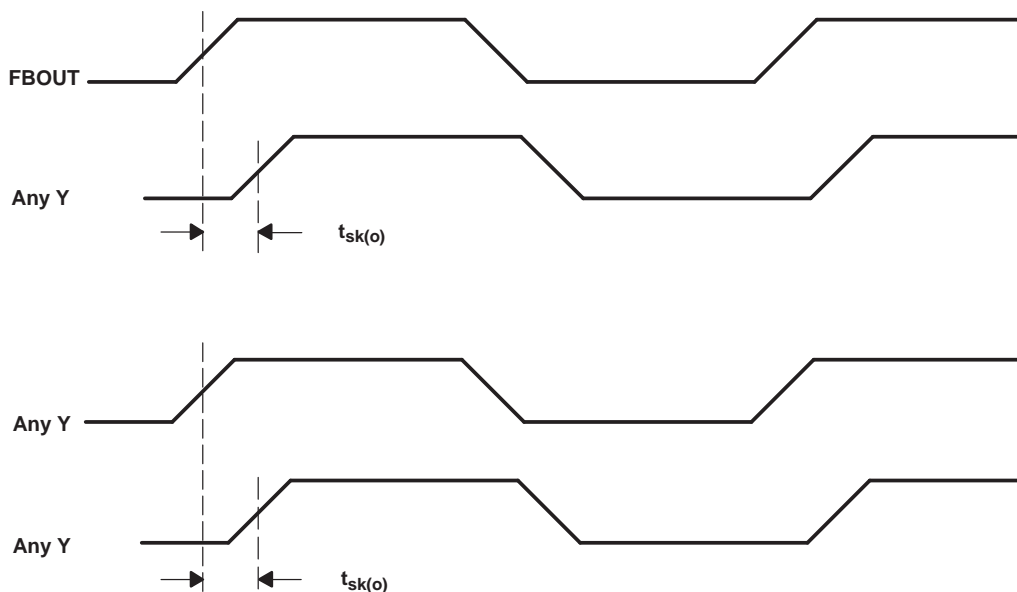

Figure 2. Skew Calculations
over recommended ranges of supply voltage and operating free-air temperature, $C_L = 25$ pF (see Figure 1 and Figure 2)^{(1) (2)}
<ul style="list-style-type: none"> Changed Features bullet - From: Jitter (cyc - cyc) at 66 MHz to 166 MHz Is Typ = 70 ps To: Jitter (cyc - cyc) at 60 MHz to 175 MHz Is Typ = 65 ps 1 Added Phase error time- static - CLK↑ = 25 MHz to 65 MHz - to the SWITCHING CHARACTERISTICS table 6 Changed Jitter values in the SWITCHING CHARACTERISTICS table 6 Added Dynamic phase offset to the SWITCHING CHARACTERISTICS table 6 Changed Figure 2, Skew Calculations 7 Added Figure 3, Static and Dynmaic Phase Offset 8 	1 6 6 6 7 8